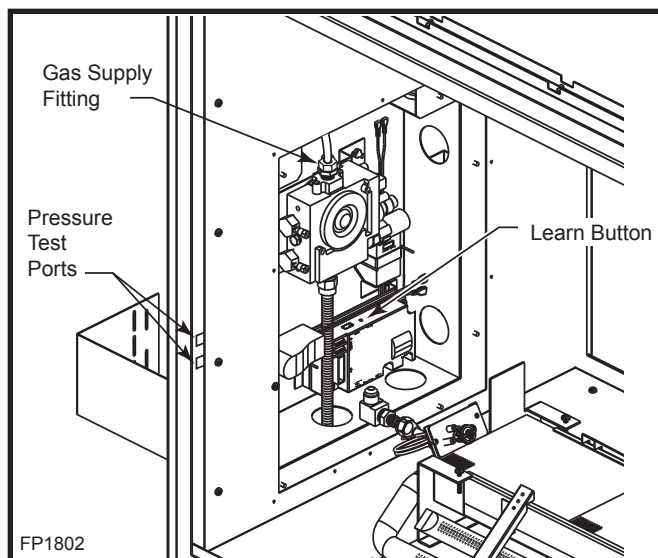

Fig. 8 Connect gas supply to valve.
When using copper, use only approved fittings. **Always provide a union** when using black iron pipe so the gas line can be easily disconnected for burner servicing. A union may not be behind a wall. (Fig. 8) See the gas specifications for pressure details and ratings.
6. Remove pilot assembly from burner assembly by removing two (2) screws.
10. Connect the gas supply to the valve. (Fig. 8) Be sure to use a back-up wrench when tightening supply fitting.
NOTE: If you need to test the inlet pressure and/or manifold pressure, there are two (2) test ports available along the front edge between the firebox side and outer casing. The upper test port is inlet pressure. The lower test port is manifold pressure. (Refer to Figure 8)